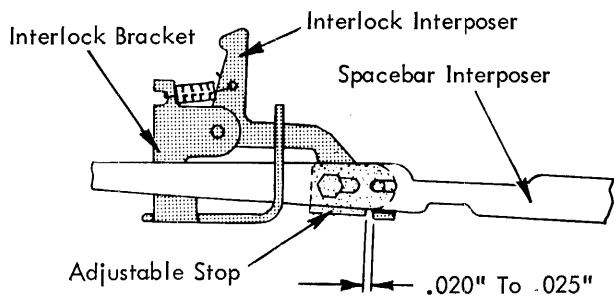

FIGURE 198. Adjustable Stop
- c. Position the adjustable stop on the spacebar interposer forward or back so that .020" to .025" clearance will exist between the stop and the interlock interposer when the machine is half-cycled and the spacebar interposer is latched at rest (Fig. 198).